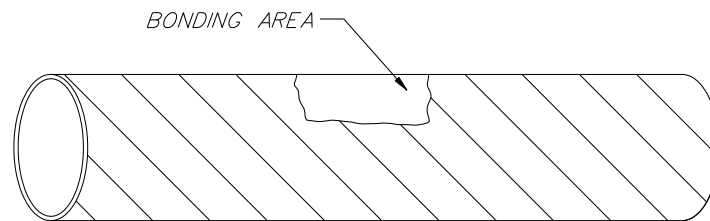

FIG 1
1. Clean a 2 to 3 inch square on top of the steel or ductile iron pipe, as in Fig 1, and file down to bare shiny metal. Remove 1-1/2 inches of insulation from the anode connector wire end. Slide a copper sleeve on to the connector wire end and crimp it. Cut off the remaining wire or bend the end of the connector wire over the sleeve. See Fig 2. Tug on the sleeve to ensure it is tight.